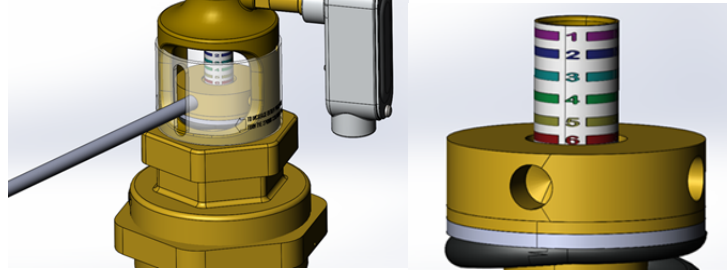

Figure 2: Rotating Spring Controller for Different Valve Settings
2. Rotate the clear cover as required: Insert adjustment tool (provided with the valve) through the slot in the clear cover and into the hole in the Adjustable Spring Controller. See Figure 2.
3. Rotate the Spring Controller until the top of the Spring Controller is aligned with the desired mark on the Indication Label (See Figure 2). Turn Clockwise to go from Valve Setting number 1 through 6.